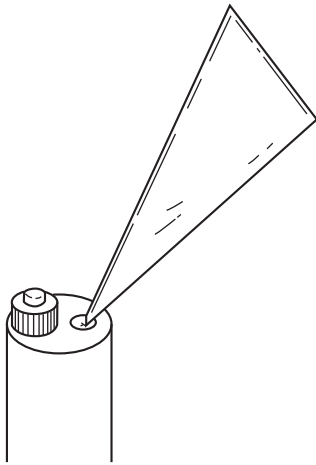

Figure 3.2 Pouring KCl Powder into Sensor
- (6) Pour about 10 or 12 grams of powder into the sensor, Use a bag of KCl powder when using the optional KCl solution kit, Cut off the tip of the bag and follow Figure 3.2 below. If the KCl powder has hardened, break it up into pieces. Then do the above.